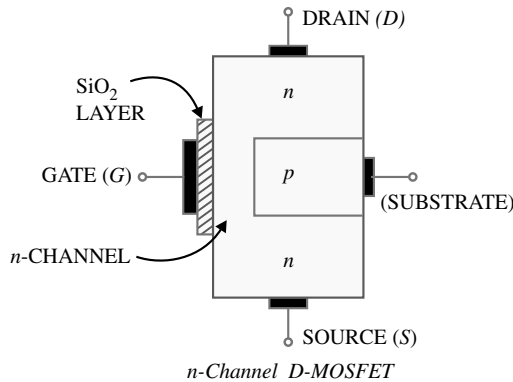

Fig. 17.51
1. **D-MOSFET.** Fig. 17.51 shows the constructional details of *n*-channel *D-MOSFET*. It is similar to *n*-channel *JFET* except with the following modifications/remarks :
(i) The *n*-channel *D-MOSFET* is a piece of *n*-type material with a *p*-type region (called *substrate*) on the right and an *insulated gate* on the left as shown in Fig. 17.51. The free electrons ( $\because$  it is *n*-channel) flowing from source to drain must pass through the narrow channel between the gate and the *p*-type region (*i.e.* substrate).